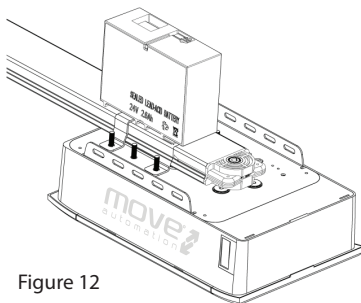

Figure 12
STEP 2 (Fig.12)
Join the battery to opener, find the Fig.12.